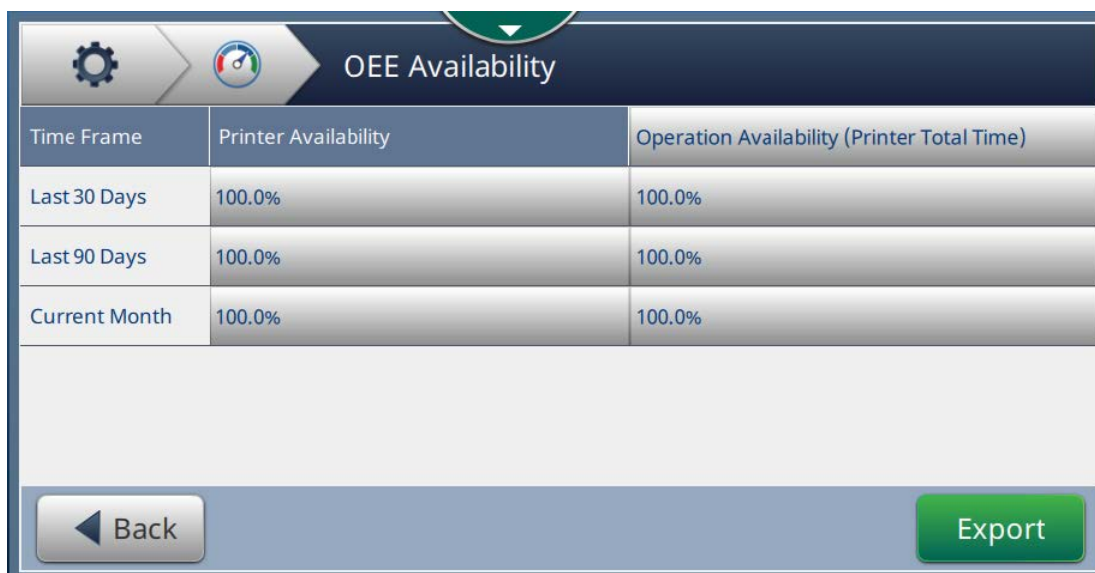

Figure 6-39: Performance - OEE Availability
2. Printer Availability and Operation Availability data is displayed with the time frame for printer total time as shown in Figure 6-39.